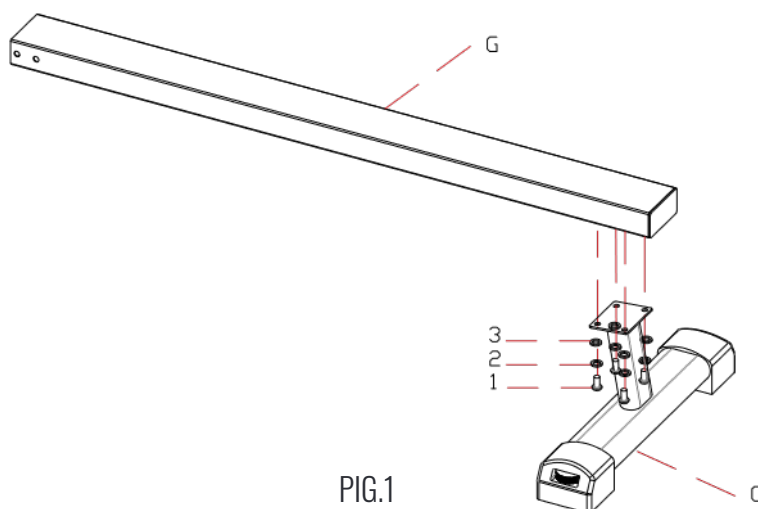

FIG.1
Use a cross wrench to take out the cross pan head screw M4*10 (7) and flat washer $\phi 4$ (8) that pre-locked on the console (H). Install the console(H) on the rower as shown in the FIG.7. Note: The outlet wire(N) of the console and outlet wire(M) of the console holder should be connected and placed according to the method of FIG.1 to avoid pressing the wire.